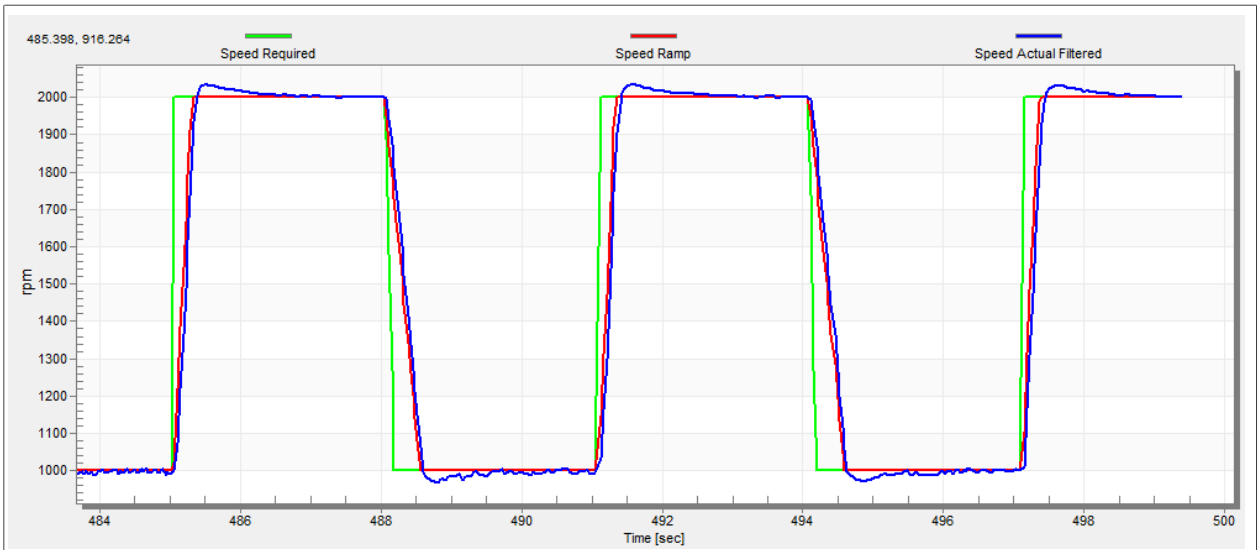

Figure 26. Speed controller response—speed loop response with a small overshoot
- The speed loop response has a small overshoot and the “Speed Actual Filtered” settling time is sufficient. Such response can be considered optimal (see Figure 26).